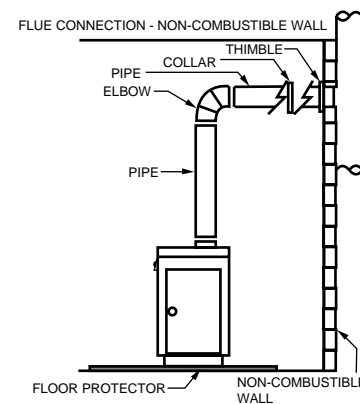

Fig. 5
1. The chimney connection should be as possible. The heater must have its own chimney flue. Do not connect this unit to a chimney flue, serving another appliance. If there is no chimney near where you wish to place the heater, you can use a UL 103HT Residential Type and Building Heating Appliance Chimney (Fig. 5, 6, 6A & 6B).